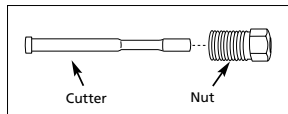

Figure 5
5. After removing cutter and nut from tool, slide nut off cutter (Figure 5).